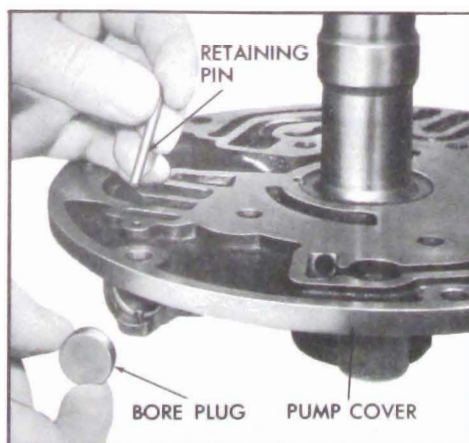

Figure 5-603
6. Install the pressure regulator valve bore plug and retaining pin into opposite end of bore. See Figure 5-603.